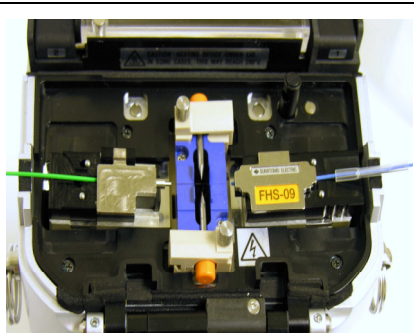

Figure 27
6. Cleave fiber using appropriate cleaver and place into fusion splicer. (Fig. 27)
7. Load the ferrule assembly into its specially designed holder and place into fusion splicer. (Fig. 27)